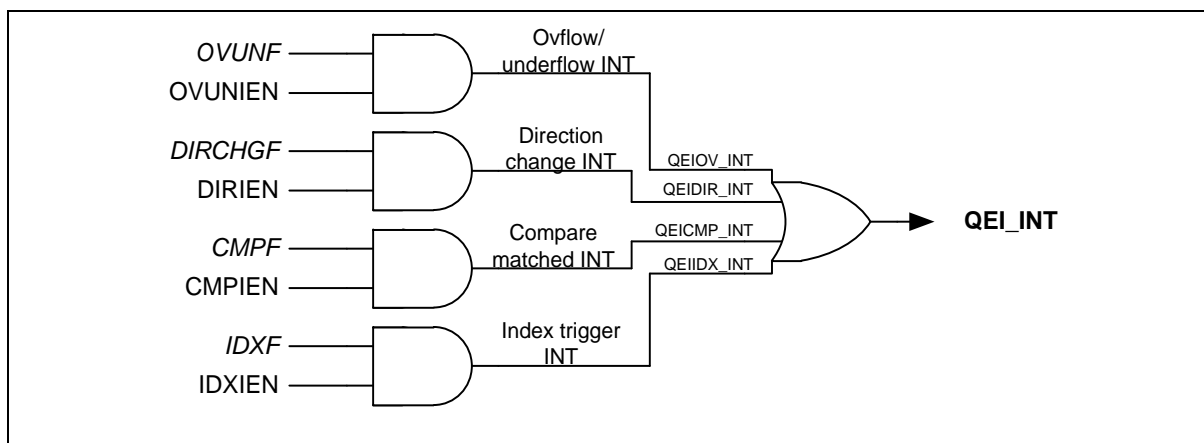

Figure 6.10-12 Quadrature Encoder Interface Interrupt Architecture Diagram
**hardware and must be cleared by software.** Figure 6.10-12 demonstrates the architecture of Quadrature Encoder Interface Controller interrupts.